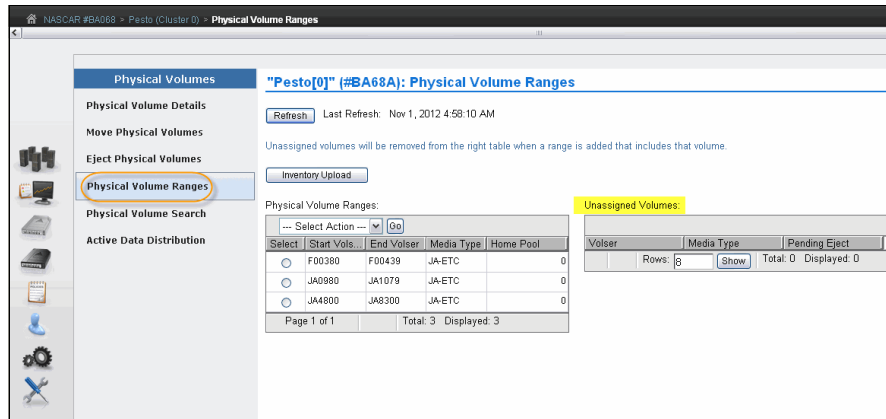

Figure 11-19 Physical Volume Ranges window
5. For a TS7700T cluster, click **Physical** → **Physical Volumes** → **Physical Volume Ranges** and then click **Inventory Upload**, as shown in Figure 11-19 on page 579.
8. For a TS7700T cluster, click **Physical** → **Physical Volumes** → **Physical Volume Ranges** and click **Inventory Upload**, as shown in Figure 11-19 on page 579.
Use the window that is shown in Figure 11-19 to add, modify, and delete physical volume ranges. Unassigned physical volumes are listed in this window. If a volume is listed as an unassigned volume, and this volume belongs to this TS7700, a new range should be added and include that volume to fix it. If an unassigned volume does not belong to this TS7700 cluster, it should be ejected and reassigned to the proper logical library in the physical tape library.